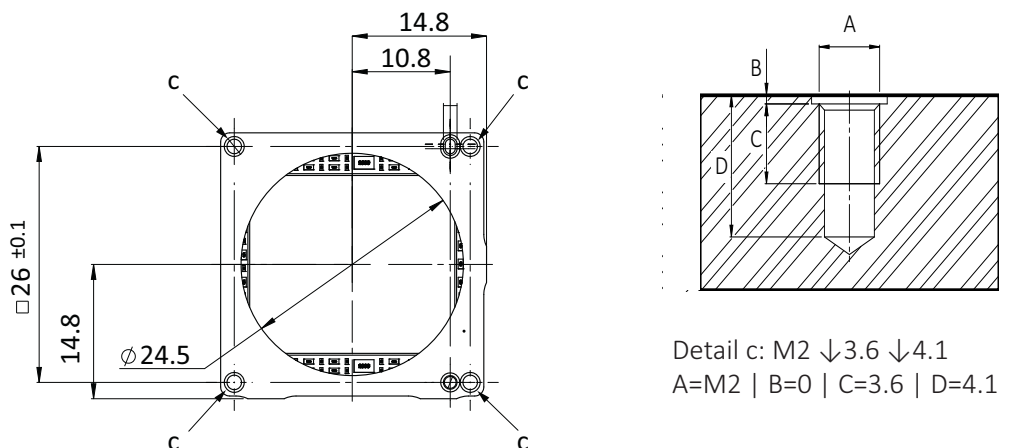

Figure 92: Mounting threads Alvium Frame
As shown in Figure 92, mount the camera to the base using suitable M2 screws for the 4 mounting threads: At 0.4 Nm maximum torque for a thread engagement (C) of 3.6 mm between screws and mounting threads.